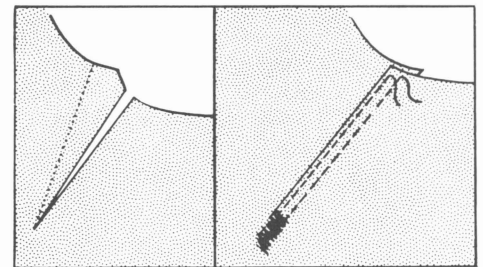

Figure 7. Lapped dart.
- **Lapped Method.** Slash dart down one stitching line to end point; lap, matching stitching lines; stitch along stitching line close to cut edge. Stitch again, 1/8 inch (3 mm) from the first stitching. Trim dart allowances to 1/4 inch (6 mm). Reinforce the point by zigzagging (Figure 7).